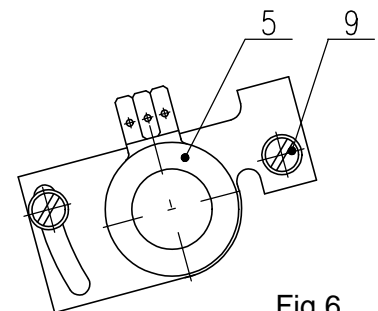

Fig.6
4.3 Adjustment of resistant transmitter (Fig. 6)